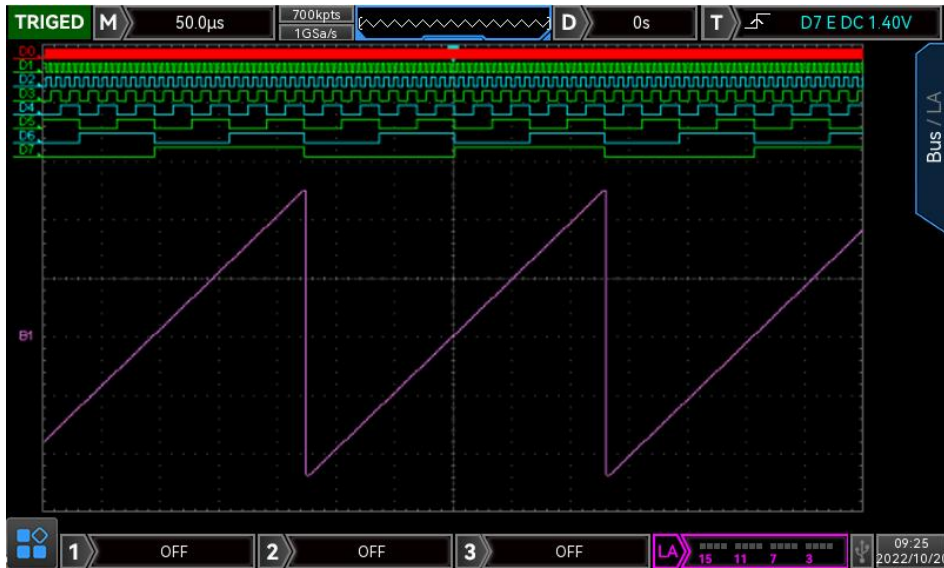

Figure 16-1
- (1) Bus: It can be "BUS1" or "BUS2".
- (2) Bus status: Turn on/off data bus.
- (3) Quick selection: Select the corresponding channel group of BUS1 or BUS2, which can be D0-D7, D8-D15, D0-D15 or None.
- (4) Bit: Select the corresponding channel bit of the bus, which can be D0 ~ D15, CH1 or CH2.
- (5) Bit order: Set the bus bit order, which can select "low to high"(D0 locate in low bit) or "high to low"(D0 locate in high bit).
- (6) Clock: Select any one of channel (D0~D15, CH1, CH2) as the reference clock of bus. Select "NULL" means not set the reference clock.
- (7) Edge type: Set sampling edge type of reference clock, which can be "rising edge, falling edge".
- (8) Display type: Select display format of data bus, which can be hexadecimal, decimal, binary system, ASCII or figure. In figure display mode, the oscilloscope will display the bus data to the level of the corresponding value in a specific way. It is convenient to observe the changing trend of bus value, as shown in Figure 16-1.
- (9) Shake proof: Turn on/off shake proof function.